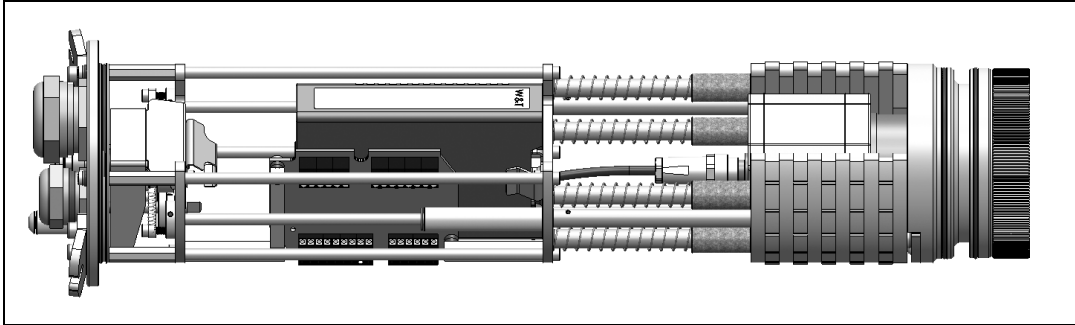

Figure 49: Chassis with TIM camera, Industrial PIF and USB server Gigabit
7. Then connect the TIM camera and the USB server Gigabit with the provided USB cable and the Industrial PIF with the camera. Combine the network connector and the USB server Gigabit (**Figure 49**).